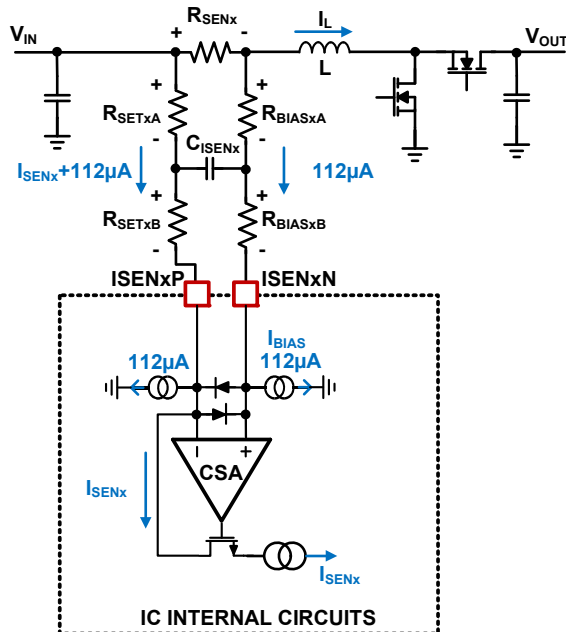

FIGURE 60. CURRENT-SENSING BLOCK DIAGRAM
The ISL78227 peak current control architecture senses the inductor current continuously for fast response. A sense resistor is placed in series with the power inductor for each phase. The ISL78227 Current Sense Amplifiers (CSA) continuously sense the respective inductor current as shown in Figure 60 on page 31 by sensing the voltage signal across the sense resistor, R_{SENx} (where “x” indicates the specific phase number and same note applied throughout this document). The sensed current for each active phase is used for peak current mode control loop, phase current balance, individual phase cycle-by-cycle peak current limiting (OC1), individual phase overcurrent fault protection (OC2_PEAK), input average Constant Current (CC) control and average overcurrent protection (OC_AVG), diode emulation, and phase drop control. The internal circuitry shown in Figure 60 represents a single phase. This circuitry is repeated for each phase.
The RC network between the R_{SENx} and $I_{SENxP/N}$ pins as shown in Figure 60 is the recommended configuration. The I_{SENxP} pin should be connected to the positive potential of the R_{SEN_CHx} through resistor R_{SETx} , where in Figure 60, R_{SETx} is composed by R_{SETxA} plus R_{SETxB} . R_{SET} is used to set the current sense gain externally.
Because there is an 112µA bias current sinking to each of the I_{SENxP} and I_{SENxN} pins, R_{BIASx} with the same value to R_{SETx} should be placed between the I_{SENxN} pin to the low potential of the R_{SENx} , where in Figure 60, R_{BIASx} is composed by R_{BIASxA} plus R_{BIASxB} .
It is recommended to have $R_{SETxA} = R_{BIASxA}$ and $R_{SETxB} = R_{BIASxB}$, and insert a capacitor (C_{ISENx}) between them as shown in Figure 60. This will form a symmetric noise filter for the small current sense signals. The differential filtering time constant equals to $(R_{SETxA} + R_{BIASxA}) \cdot C_{ISENx}$. This time constant is typically selected in range of tens of ns depending on the actual noise levels.